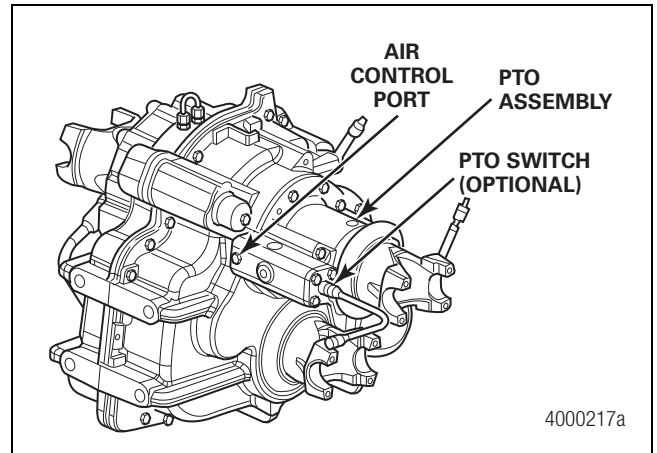

Figure 7.6
1. Connect a regulated air pressure line to the air control port. Figure 7.6.